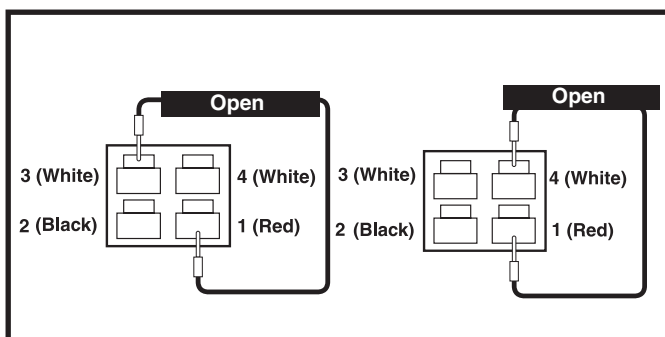

Figure 36. Connector 9a
6. Measure resistance across pin 1 (red) and pin 3 (white) and across pin 1 (red) and pin 4 (white) on connector 9a. **See figure 36.**
- *If your multimeter indicates an open on either test, then replace the power interface harness (2) and retest the system.*
- *If your multimeter indicates less than 1 ohm on both tests, then replace the right motor (9) and retest the system.*